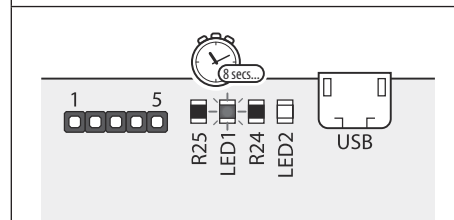

Fig. 39
3. Switch the power back **ON** to the GSM module, initially the red LED (LED1) will switch **ON** for approximately 8 seconds or so. The red LED (LED1) will then start to flash, as shown in **Fig.39**.
7. The red LED (LED1) will then start to flash again for approximately 16 - 18 seconds to indicate that the GSM module is resetting back to the factory default (**Fig.39**).